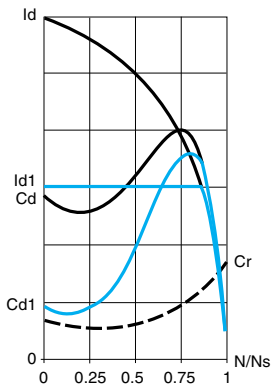

Figure 1
- Figure 1 shows the behaviour of the torque in relation to the starting current.